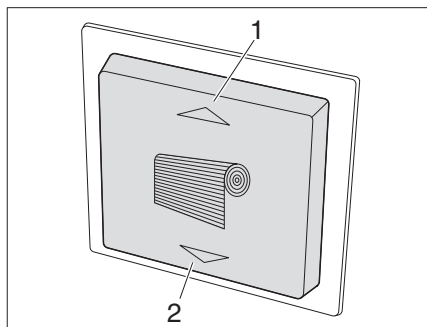
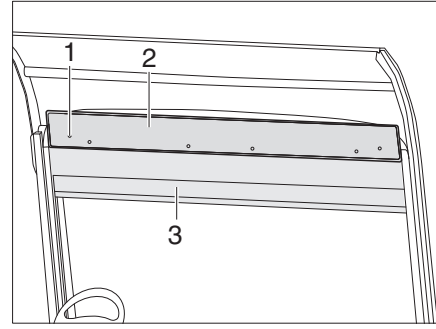

Fig. 77 Switch for blind
Fig. 79 Blind emergency function
Closing: ■ Press the (Fig. 77/2) button. The blind (Fig. 79/3) for the windscreen rolls down.
Opening: ■ Press the (Fig. 77/1) button. The blind (Fig. 79/3) for the windscreen rolls up.
- Unscrew 6 screws (Fig. 79/1) on the blind box and remove the panel (Fig. 79/2).
- Hang the crank in one of the two motors and raise or lower the blind (Fig. 79/3).